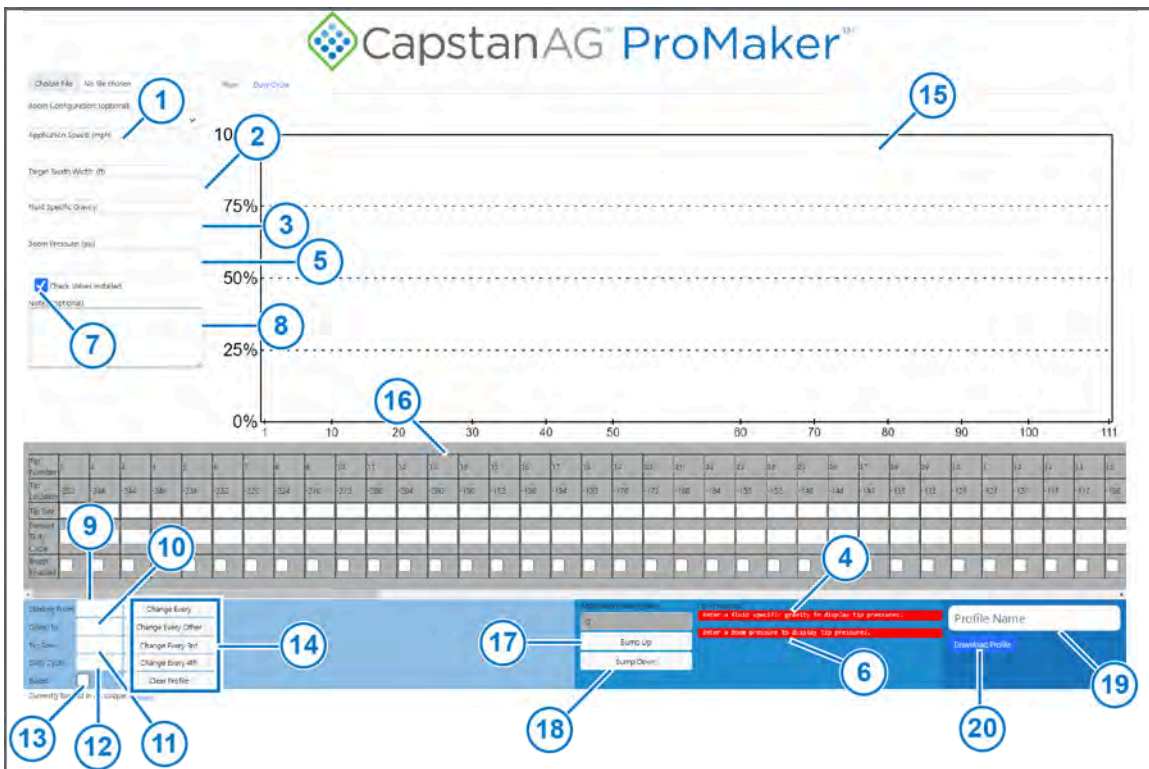

Figure 9: Main Profile Page
3. Click in the box (Figure 9, Item 1) below **Application Speed:** and enter the target ground speed at which the product will be applied.
4. Click in the box (Figure 9, Item 2) below **Target Swath Width:** and enter the target width of product application.
5. Click in the box (Figure 9, Item 3) below **Fluid Specific Gravity:** and enter the information for the product you will apply.
This information can be found on the label for the chemicals you use. You must enter this value, or a message (Figure 9, Item 4) will show.
6. Click on the box (Figure 9, Item 5) below **Boom Pressure:** and enter the target boom pressure for application.
You must enter this value, or a message (Figure 9, Item 6) will show.
7. If the boom uses CapstanAG check valves, make sure to put a check mark in the box (Figure 9, Item 7) next to **Check Valves Installed.**
8. If desired, click in the box (Figure 9, Item 8) below **Notes: (optional)** and enter any additional information you want to have with this profile.
- a) Click in the box (Figure 9, Item 9) next to **Starting From:** and enter the starting tip number.
- b) Click in the box (Figure 9, Item 10) next to **Going to:** and enter the ending tip number.
- c) Click in the box (Figure 9, Item 11) next to **Tip Size:** and enter the correct tip size.
- d) Click on the box (Figure 9, Item 12) next to **Duty Cycle:** and enter the value of the desired duty cycle.
- e) If you are using boost, make sure to put a check mark in the box (Figure 9, Item 13) next to **Boost.**
- f) Select which tips to change from the list (Figure 9, Item 14):
Information will be added to the bar graph (Figure 9, Item 15) and the tip information table (Figure 9, Item 16).
10. To change the application rate, select **Bump Up** (Figure 9, Item 17) or **Bump Down** (Figure 9, Item 18).
11. Click on the **Profile Name** box (Figure 9, Item 19) and enter the desired name of the profile.
12. Click **Save Profile** (Figure 9, Item 20).